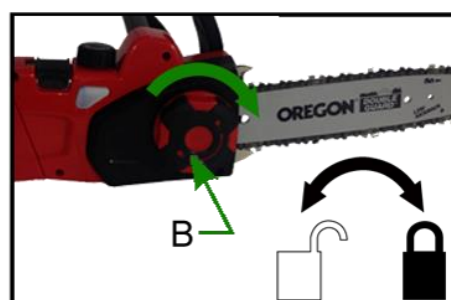

Fig. 4C
2. Tighten the side cover knob. The saw chain is properly tensioned (Fig. 4C).